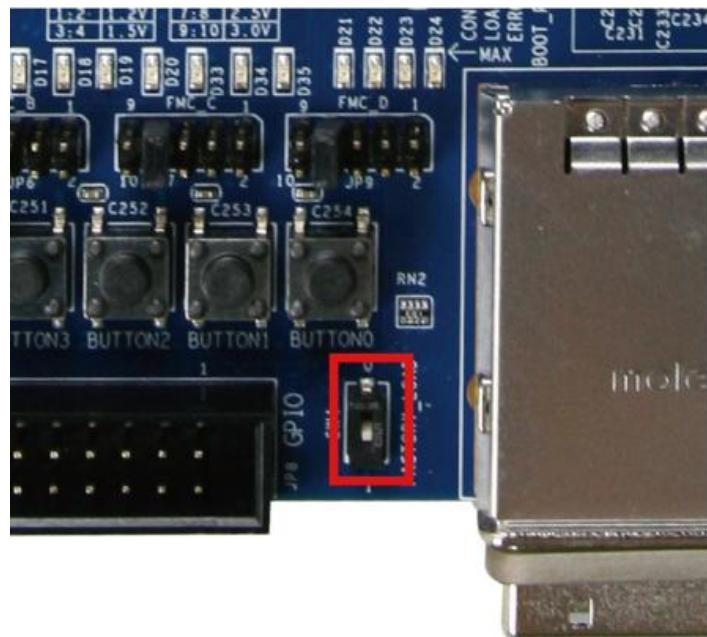

Figure 4-2 Configuration Image Selection
3. Specify the configuration of the FPGA using the default Factory Configuration or User Configuration by setting **SW4** according to Figure 4-2.